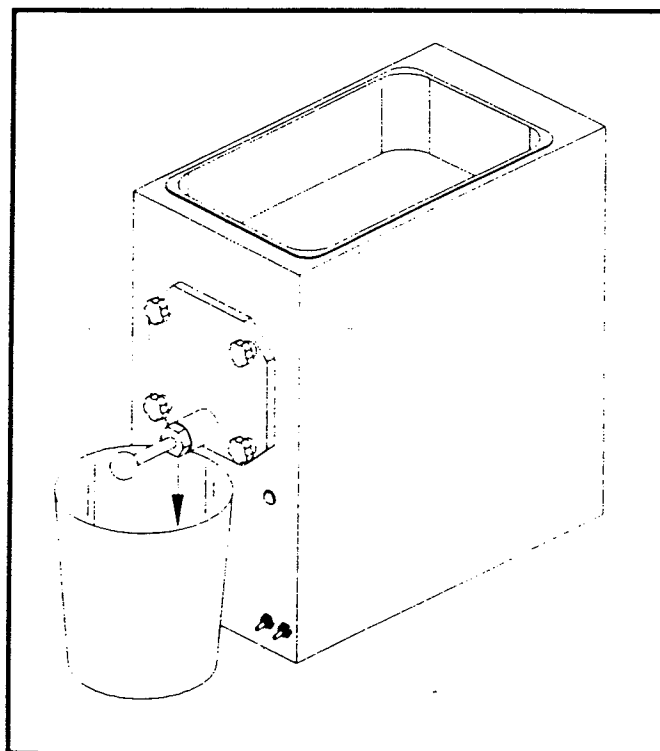

Figure 15
- C. After five minutes, open faucet to drain sanitizing solution. When solution has drained, place the three position switch in the OFF (center) position. Allow the freezer barrel to drain completely. (Fig. 15)